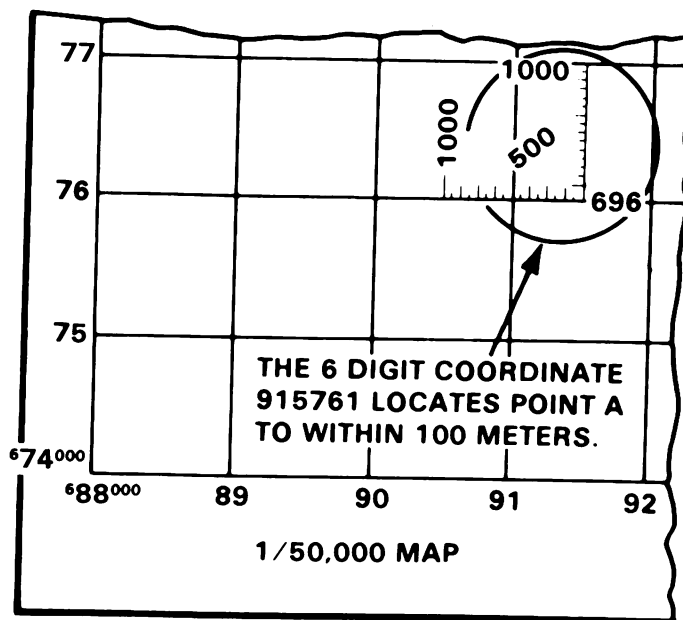

Figure 4. Use of the 6 digit coordinate.
6. Slide the coordinate scale to the right keeping the bottom of the scale on the bottom gridline until Point A is located under the vertical (right-hand) scale (fig 4).